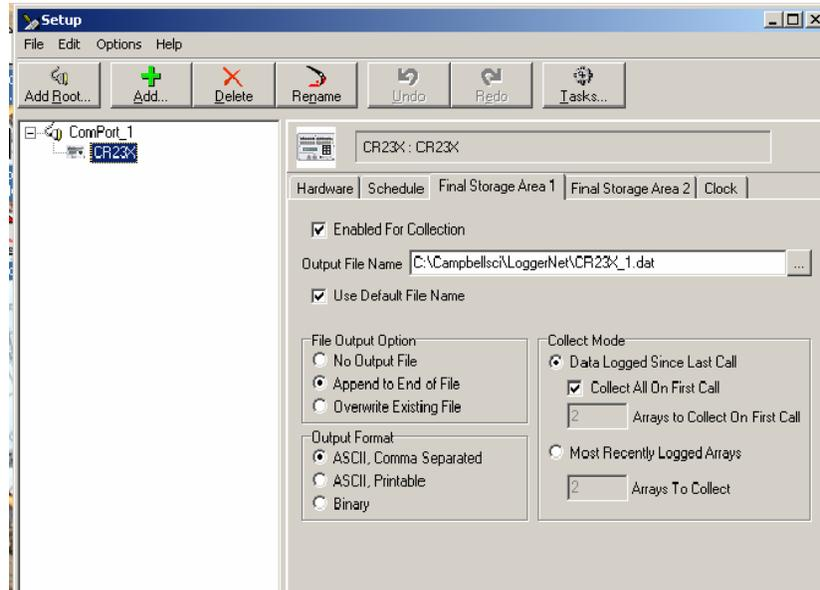

Figure 6
- c) Under the **Final Storage Area 1** tab, uncheck the **Enabled for Connection** box. Leave all other setting as they are (see Figure 6).